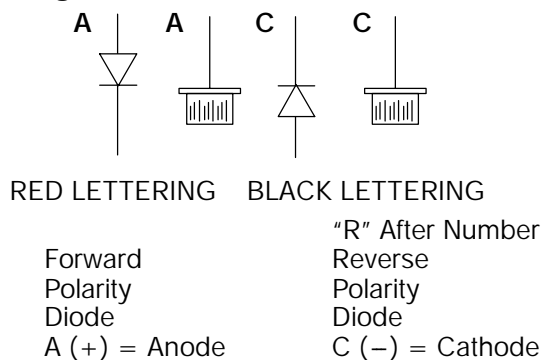

Figure 4-5. Diode Testing
2. A good diode should have a low resistance when the + of an ohm meter is connected to the anode and the - to the cathode, and a high resistance when the polarity of the ohmmeter is reversed. (See Figure 4-5)